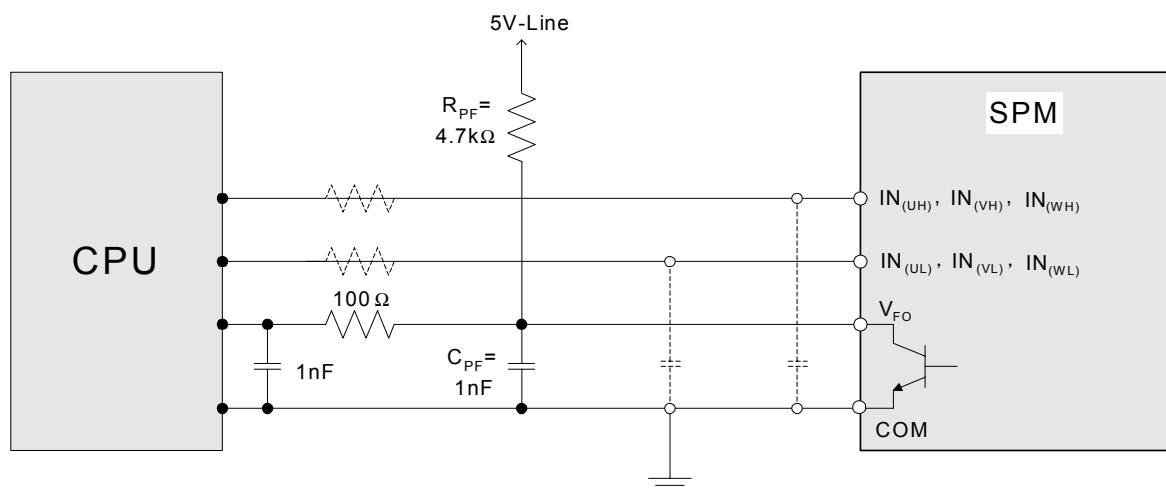

Figure 6.1 Recommended CPU I/O Interface Circuit
Figure 6.1 shows the I/O interface circuit between the CPU and Motion-SPM in Mini-DIP. Because the Motion-SPM
capacitors be placed at both the CPU and Motion-SPM ends of the V_{FO} , signal line as close as possible to each device. The RC coupling at each input (parts shown dotted in Figure 6.1) might change depending on the PWM control scheme used in the application and the wiring impedance of the application's PCB layout.
attention should be given to the signal voltage drop at the Motion-SPM input terminals to satisfy the turn-on threshold voltage requirement. For instance, $R = 100\Omega$ and $C = 1nF$ for the parts shown dotted in Figure 6.1.
- V_{FO} output is an open collector output. This signal line should be pulled up to the positive side of the 5V logic power supply with approximately 4.7kΩ resistance. (reference Figure 6.1)